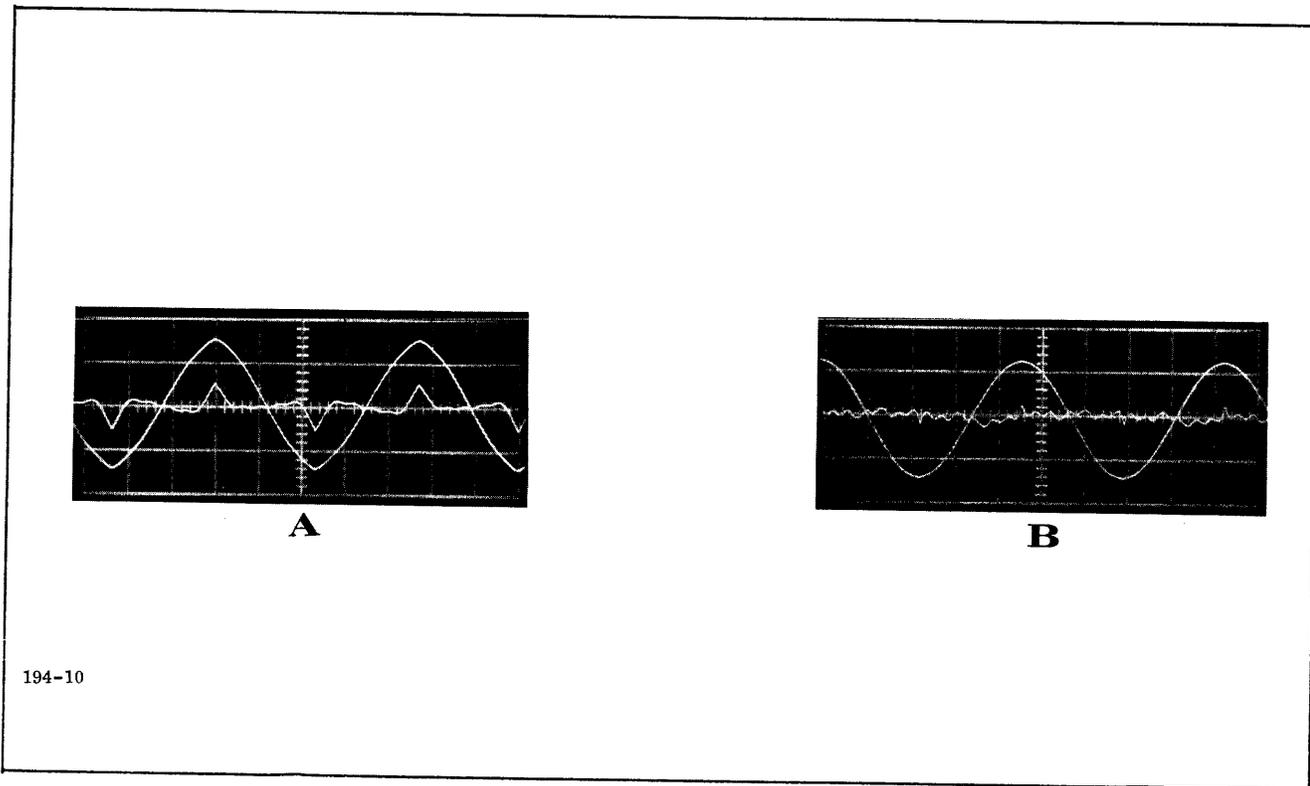

Figure 5-4. Optimum Wave for Sine Converter
5. Adjust R17 and R18 until waveform is as illustrated in A, Figure 5-4.
6. Adjust R5 and R6 until distortion analyzer null starts to flatten (See B, Figure 5-4).